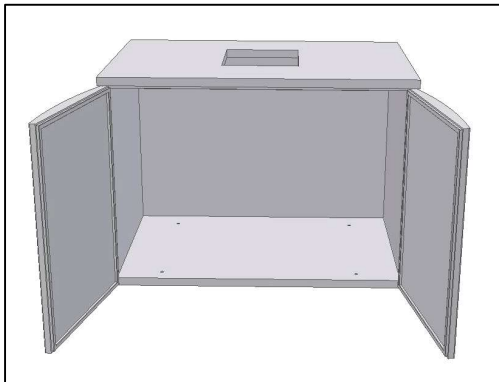

Fig. 8
- Fix the **doors (right-side and/or left-side)** to the bottom and top panels (Fig. 8);